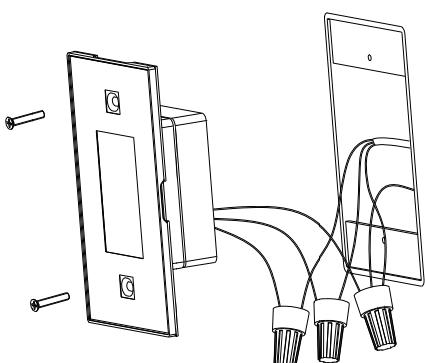

Fig. 1
2. The lamp and junction box wires are connected as follows: the brown connection wire of the lamp is connected to the live wire, the blue connection wire is connected to the neutral wire, and the yellow-green connection wire is connected to the ground wire. The ground wire on the junction box is connected to the ground wire on the lamp and the input ground wire together (as shown in Figure 1).